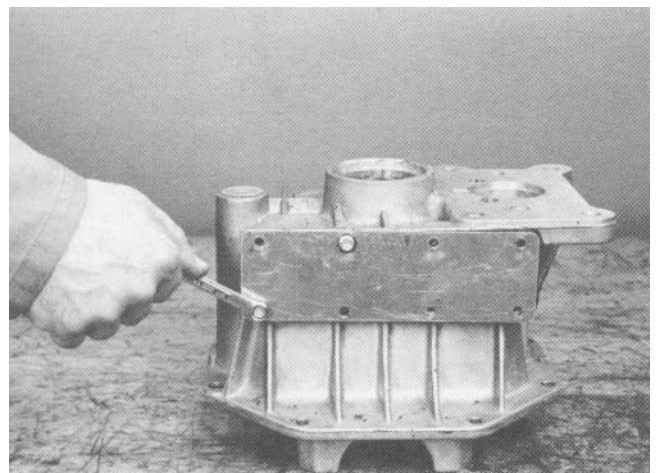

Figure 18
10. Remove the eight side cover capscrews. Remove the side cover from the carrier assembly (Fig. 18). Clean the gasket material from the mating surfaces before reassembly.